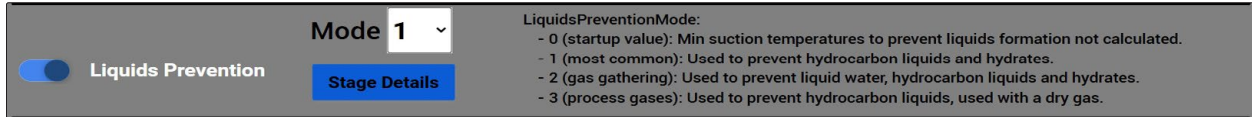

Figure 19
1. Select the **Liquids Prevention toggle** to enable the feature. See *Figure 19*.